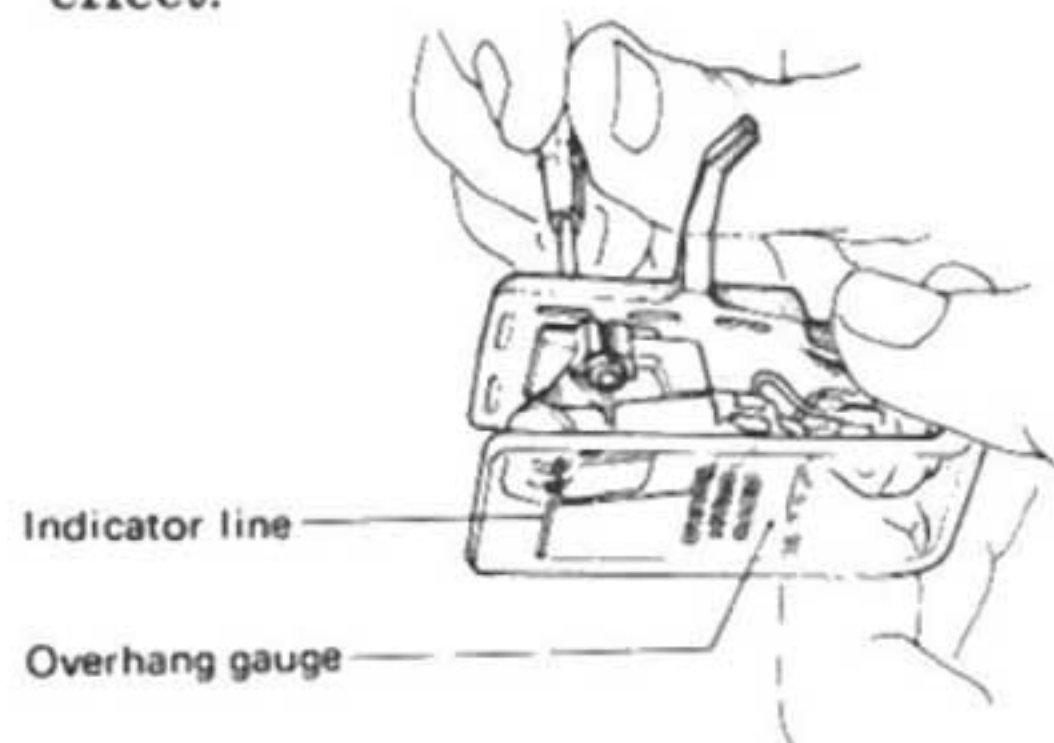

Fig. 5
3. Refer to Fig. 5 and use the accessory overhang gauge to adjust the overhang so that cartridge stylus tip is positioned over the indicator line of the gauge, and then tighten the cartridge mounting screws. Make sure that the cartridge does not tilt to one side (Fig. 6). If there is any tilting, you will not be able to obtain a normal stereo effect.